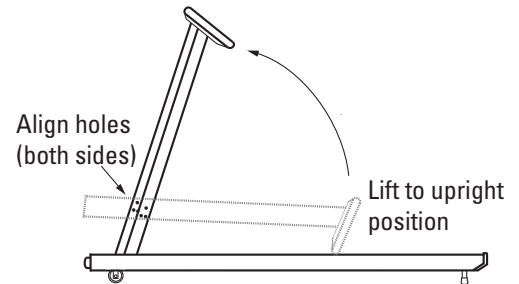

Figure 1
1. Grasp the controller uprights and pivot into position (Figure 1).